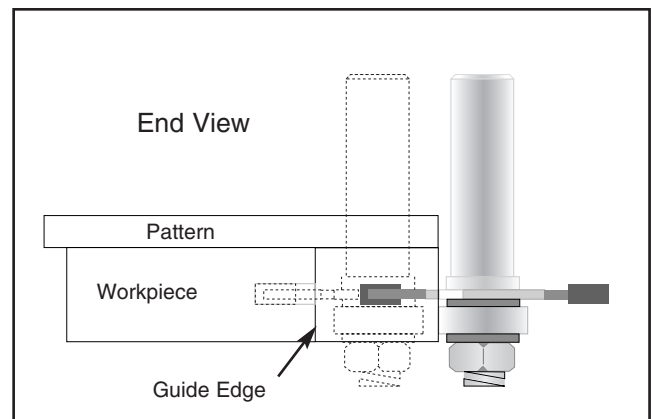

Figure 4. End view of router and fixture.
5. Set the router base plate onto the pattern top and turn the router on with the bit free of contact with the guide runner. With a firm grasp on the router, ease the router into the slot until the guide bearing of the slot cutting bit contacts the edge of the fixture. (See Figure 4) Start the cutting process at the left side of the arc and work around the circle to the right until the bit exits the fixture. Turn the router off and reposition the fixture for the next cut.